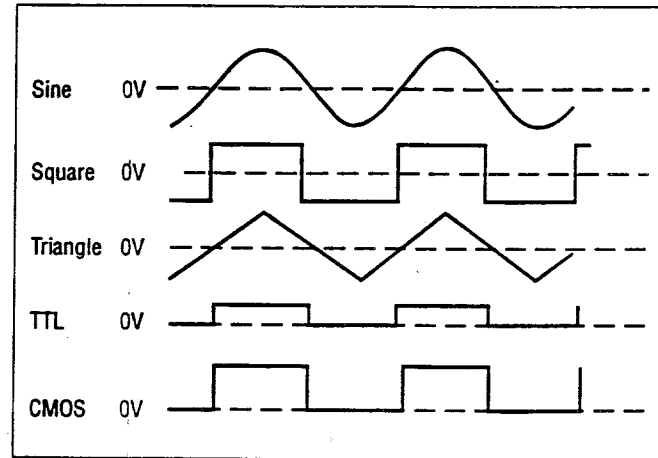

Figure 2. Output Waveform and Phase Relationship
- Initially, verify that the **DUTY CYCLE** (14), **CMOS LEVEL** (13), **DC OFFSET** (12), **-20dB** (11), switches are in the OUT position (released). This will produce a symmetrical waveform unaffected by the other controls.
- Plug the unit into an appropriate power source and turn it on by engaging the **POWER** switch (1).
- Select the desired waveform (**SINE**, **SQUARE**, or **TRIANGLE**) by engaging one of the **FUNCTION** switches (3). Phase relationships of the waveforms are shown in Fig. 2.
- Select the frequency of the waveform by engaging one of the **RANGE** switches (2). The output frequency is displayed, along with the appropriate measurement units, KHz or Hz (19), on the LED display.
- Rotate the **COARSE** (16) frequency control to quickly set the output frequency to the approximate desired value. The **FINE** (15) frequency control can then be used to easily set the output to the specific desired value. The frequency selected is available at the **OUTPUT** jack (6). In addition, a digital signal, either **TTL** or **CMOS** is available at the **TTL/CMOS** jack (7) (refer to the "TTL/CMOS OUTPUT" section of this manual).